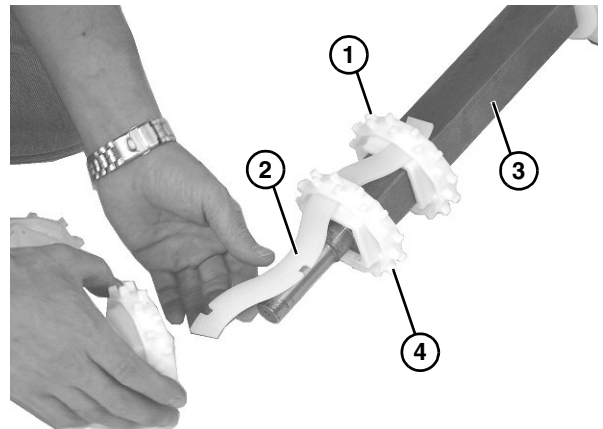

Figure 38
13. To assemble sprockets onto drive spindle, slide one sprocket (**Figure 38, item 1**) onto alignment bar (**Figure 38, item 2**) and slide assembly onto drive spindle (**Figure 38, item 3**).
14. Install second sprocket (**Figure 38, item 4**) and subsequent sprockets one by one, while sliding entire assembly onto alignment bar and spindle.